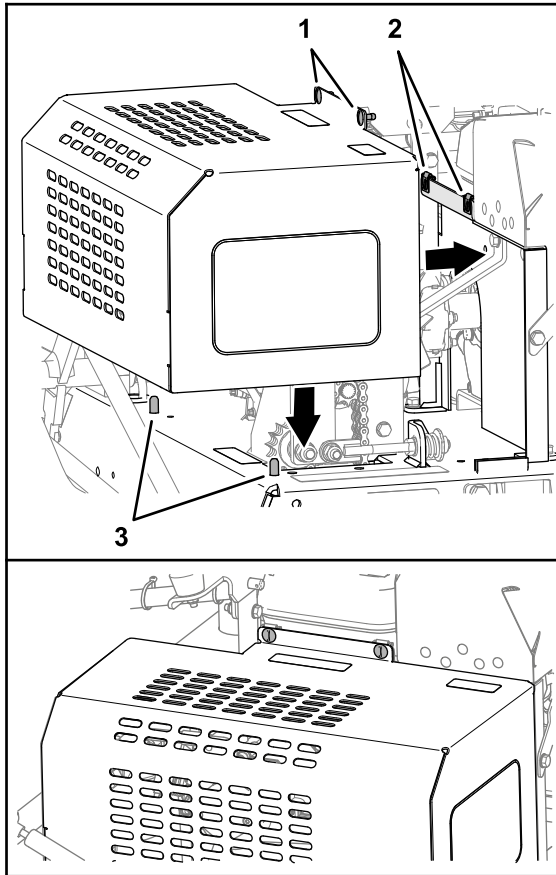

Figure 29
1. Lower the transmission cover onto the machine aligning the grommets at the bottom of the cover with the studs in the chassis (Figure 29).
2. Align the quarter-turn fasteners with the receptacle clips on the flange of the panel (Figure 29).
3. Rotate the 2 quarter-turn fastener clockwise to secure the transmission cover (Figure 29).